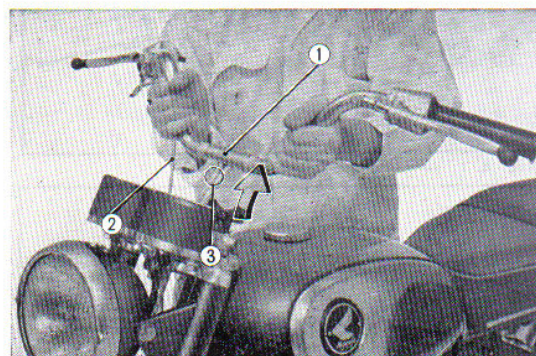

Fig. 4.7 Removing the handlebar
6. Remove handle bar by unscrewing the four bolts from the handle pipe holder clamps. (Fig. 4.7)